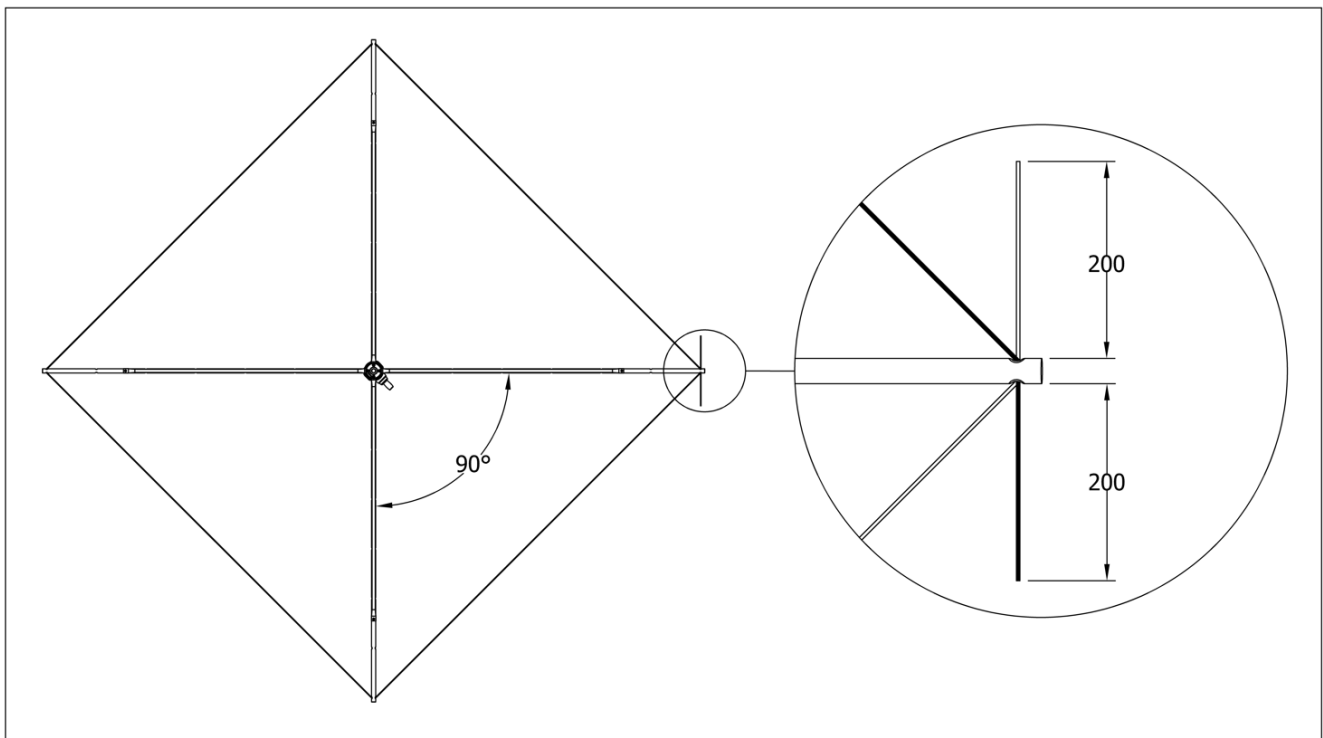

Fig 8. Wire the outer line.
1. Work around the clothesline threading the wire through the outermost hole on each arm. Using bolt cutters cut the wire, leaving approx. 200mm either side of the arm. (Fig 8).